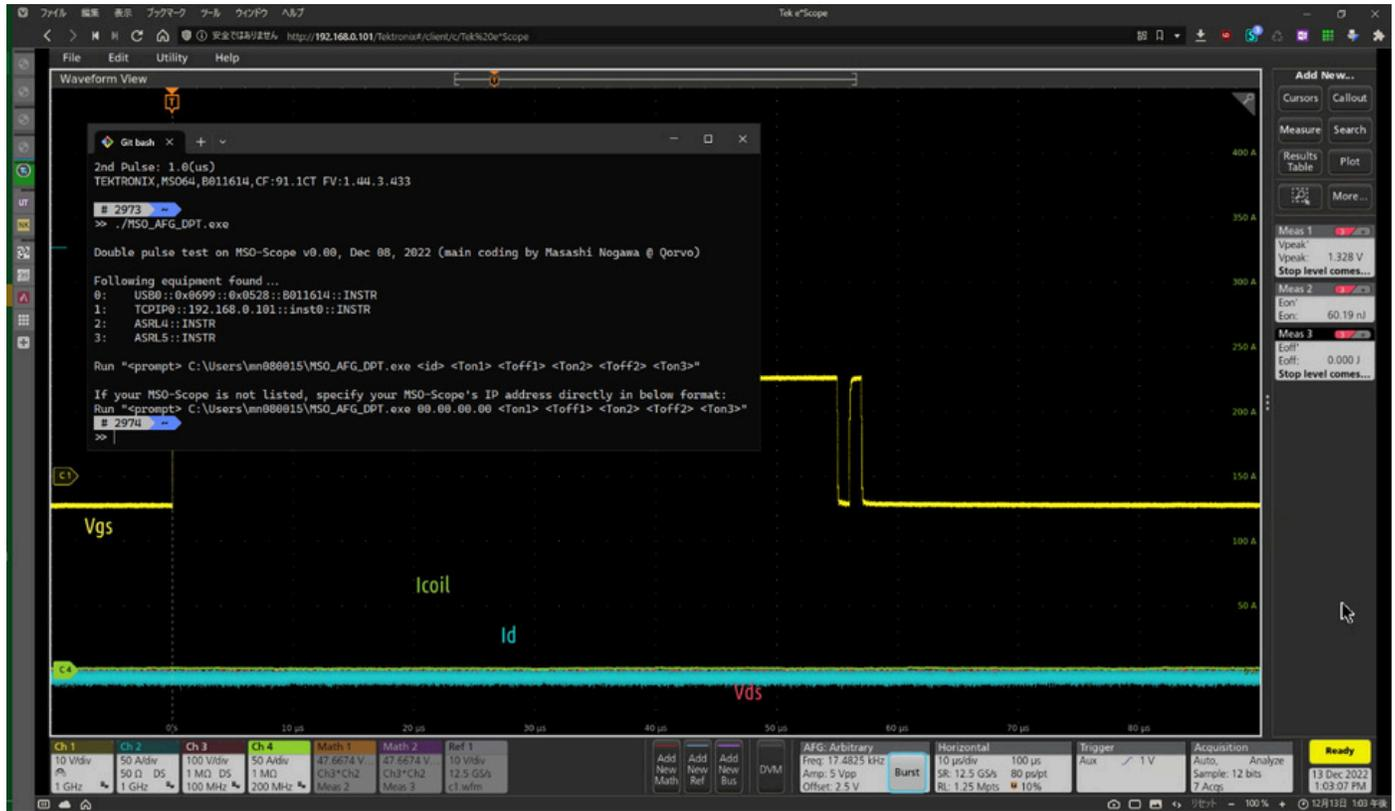

Figure 7: When run without parameters, the program lists the equipment identified by PyVISA.
By running the program without any parameters / arguments, it lists all the equipment visible to your PC, as shown in Figure 7.
- "0": Selects the USB interface of ID "0", from **Figure 7**
By specifying the IP address of the oscilloscope, we can set up a DPT on the AFG module on the scope. The target oscilloscope will be identified by the program when it is on a local network. In this example setup, the program found the scope at ID = "1", as shown in **Figure 7**. However, if there are multiple routers in between the host PC and the target oscilloscope, the program will not find the scope. In this case the IP address must be specified to connect. By opening the "I/O" setting dialog of the target scope from the "Utility" menu, you can identify your scope's IP address and use this IP address as the first parameter for the program. The IP address in this example is 192.168.0.101. The DPT parameters and subsequent steps are the same as the previous section "Program Usage 2: 2-Pulse DPT Setup via USB".